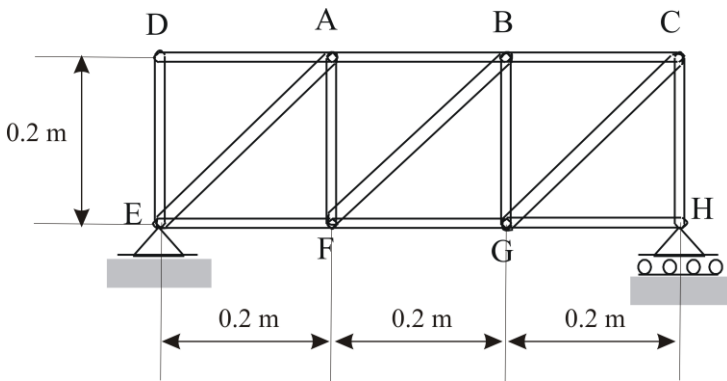

Figure 9
- Determine the vertical moment of the joint  $D$  if the length of member  $BF$  is increased by 7.5 mm in the truss shown in Figure 9. (*Hint: apply a vertical load at joint  $D$ , and, using the method of sections, compute the force exerted by member  $BF$  on joints  $B$  and  $F$ . Then apply the method of virtual work for a virtual displacement resulting in the specified increase in length of member  $BF$ . This method should be used for only small changes in the length of the member.*)